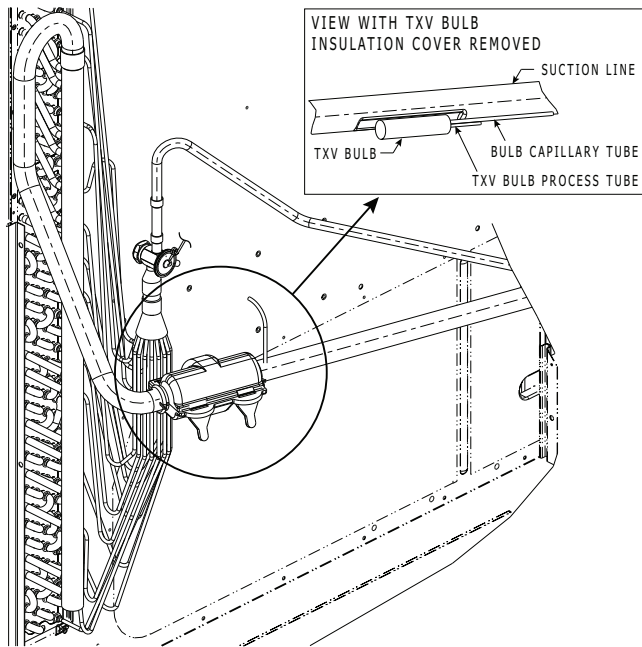

Fig. 29 — TXV Valve and Sensing Bulb Location
8. Attach TXV bulb in the same location where the original (in the sensing bulb indent) was when it was removed, using the supplied bulb clamps. (See Fig. 29 on page 21.)